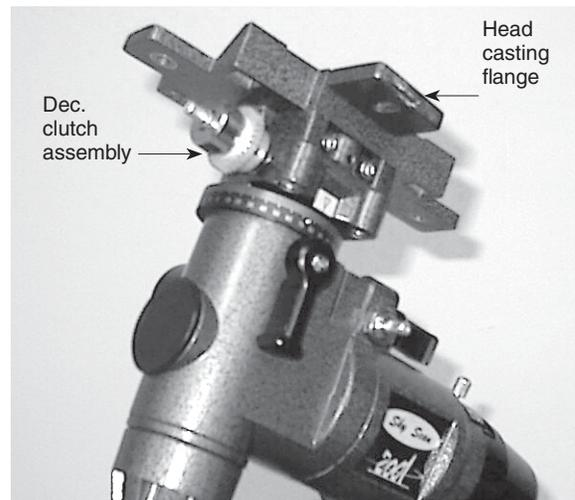

Figure 5
2. Attach the Dec. clutch assembly to the front end of the Dec. worm gear shaft. This is done by first loosening the setscrew on the brass portion of the clutch assembly with the 2mm Allen wrench. Now, slide the clutch assembly over the front end of the Dec. worm gear (**Figure 5**). Position the clutch assembly so that the setscrew lines up with the groove on the end of the worm gear. Tighten
3. Attach the Dec. motor assembly to the flange on the head casting of the mount (refer to **Figure 5**) with the socket-head cap screw and washer. First, position the motor underneath the flange so that the gear on the motor and the gear on the clutch assembly mesh. Next, insert the cap screw with washer attached down through the slot in the head casting flange and thread it into the insert on the Dec. motor housing. Use the 5mm Allen wrench to do this. While threading the cap screw into the housing, hold the